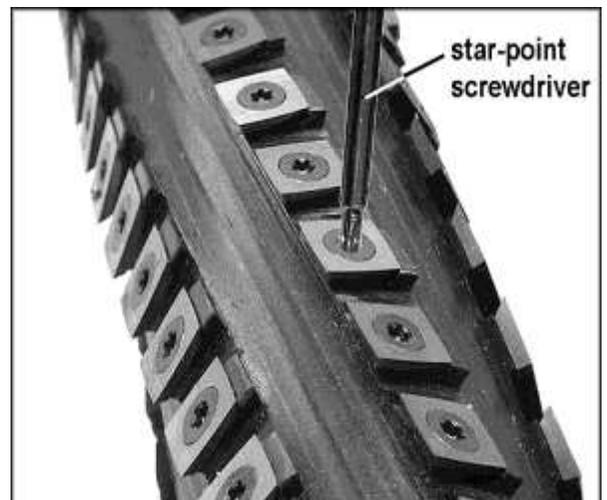

Figure 8
1. Use the provided star point screwdriver to remove the knife insert screw. See Figure 8. It is advisable to rotate all inserts at the same time to maintain consistent cutting. However, if one or more knife inserts develops a nick, rotate only those inserts affected.